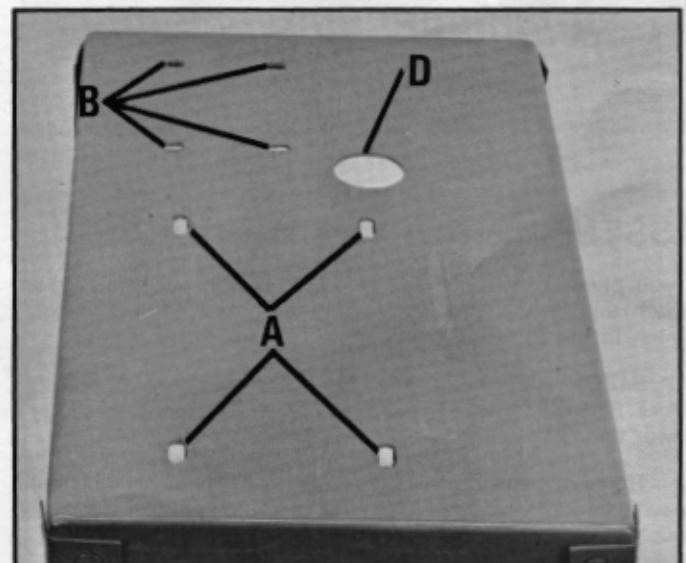
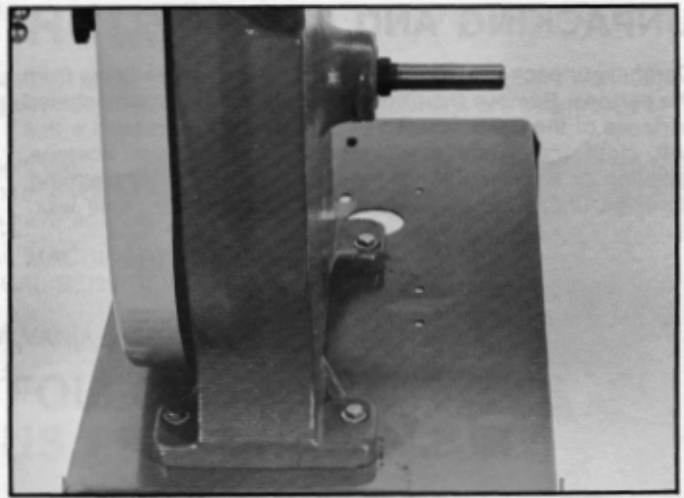
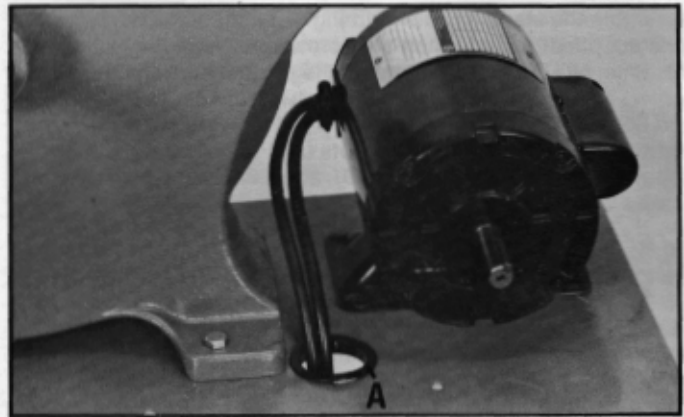
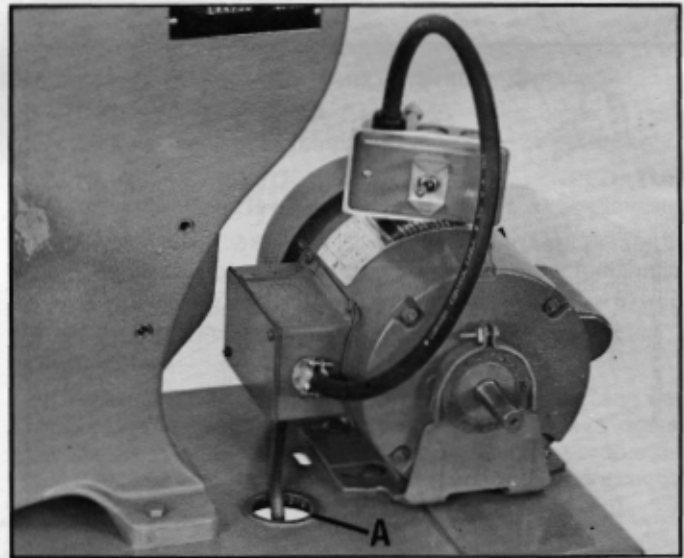

Fig. 4
Fig. 5
Fig. 6
Fig. 7
Fig. 4, illustrates the top shelf of the stand. The four holes (A) are for mounting the band saw to the stand. The four holes (B) are for mounting the motor to the stand. If you are using the 62-142 motor, the cord from the motor to the power supply and the cord from the motor to the switch are to be passed through the large hole (D) Fig. 4. If you are using the 62-246 motor, the cord from the motor to the power supply is to be passed through the large hole (D) Fig. 4.
The correct holes in the top shelf of the stand for mounting the band saw are shown at (A) Fig. 4. Assemble the band saw to the stand, as shown in Fig. 5, using the four 5/16-18 x 1-3/4" hex head screws, 5/16" flat washers, 5/16" lockwashers and 5/16" - 18 hex nuts. The hex nuts and lockwashers will be located on the underside of the top shelf.
The motors recommended for use with your saw are the 62-142, 1/2 H.P., 115 Volt, heavy duty, ball bearing, 1725 RPM motor, shown in Fig. 6, or the 62-246, 3/4 H.P., 115/230 Volt, heavy duty, ball bearing, 1725 RPM, resilient mount motor, shown in Fig. 7. **IMPORTANT:** The rotation of the motor used with your band saw must be in the counterclockwise direction when viewed from the shaft end of the motor. The 62-142 motor is wired for clockwise rotation when it is shipped and the direction of rotation must be changed by referring to the section **CHANGING MOTOR ROTATION OF THE 62-142 MOTOR.**
The correct holes in the top shelf of the stand for mounting the motor are shown at (B) Fig. 4. Assemble the motor to these four holes as shown in Figs. 6 or 7, using the four 5/16 - 18 x 3/4" carriage bolts, 5/16" flat washers, 5/16" lockwashers and 5/16-18 hex nuts. The hex nuts, lockwashers and flat washers will be located underneath the shelf. **NOTE:** Do not completely tighten the motor mounting nuts at this time. Proper belt tension and pulley alignment must first be made.
Place grommet (A) in large hole on top shelf, as shown in Fig. 6 and 7. If you are using the 62-142, 1/2 H.P. motor, insert switch cord and power cord through hole, as shown in Fig. 6. If you are using the 62-246, 3/4 H.P. motor, insert only the power cord through the hole, as shown in Fig. 7.